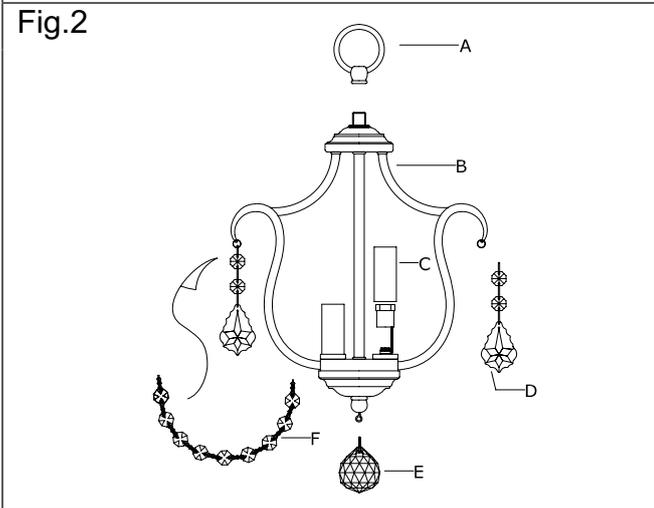

Fig.4
****If you not need assembly the fixture loop , please pause and refer to Fig 4.****